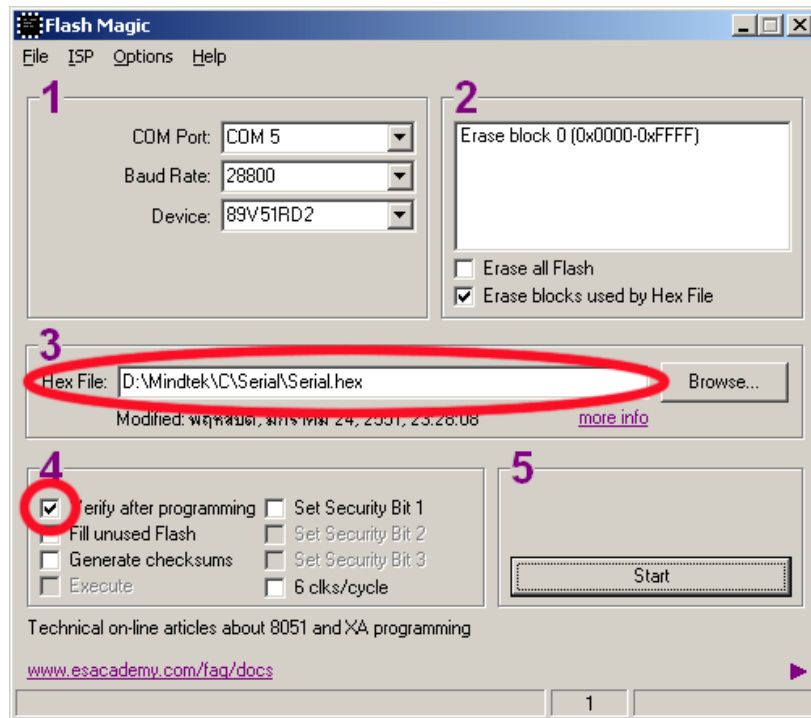

Figure8. Choosing hex file for downloading
- Chose hex file to download and mark Verify after programming and Erase blocks used by Hex File as shown in Figure 8